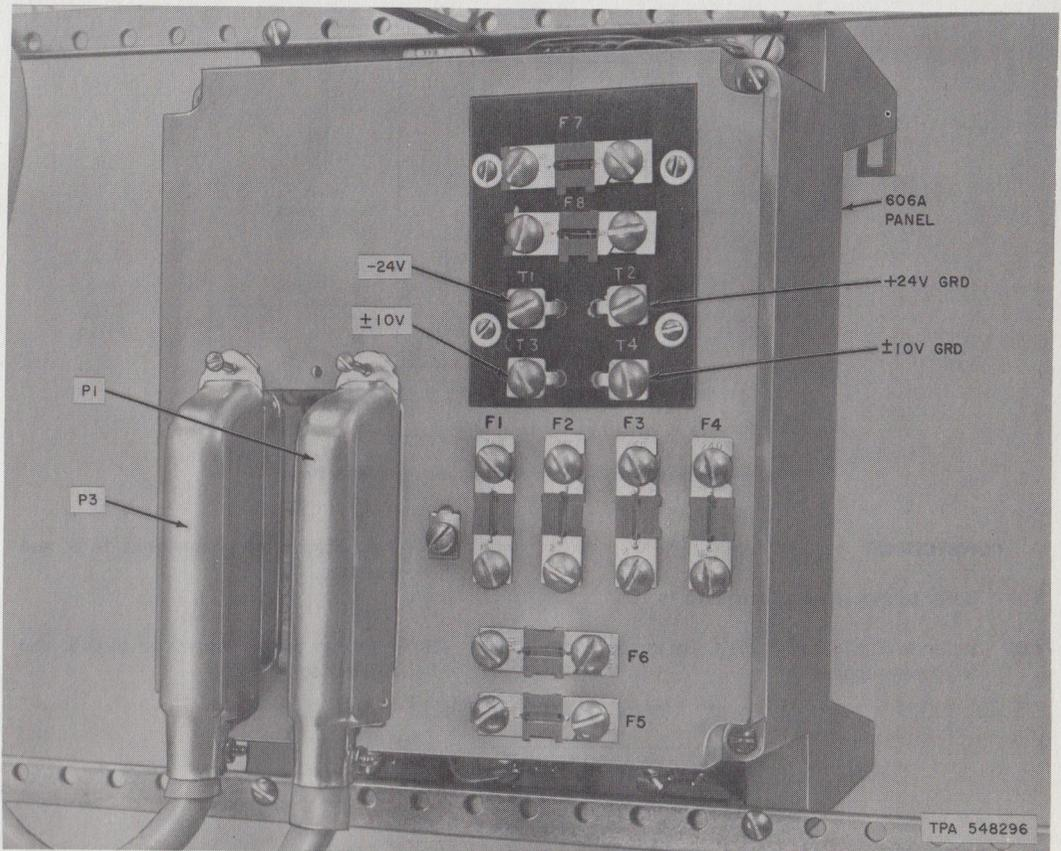

Fig. 2—606A Panel (Rear View)
2.06 The 24E 1/2-ampere fuses attach to screw terminals on the rear of the panel as shown in Fig. 2.
3.02 Two A25B (or equivalent) connector cables are used to connect the 606A panel to the 66B4-25 intermediate connecting block. The A25B connector cables plug into the back (P1 and P3) of the 606A panel (Fig. 2).
is connected to the terminals on the rear of 606A panel as shown in Table B and Fig. 2.